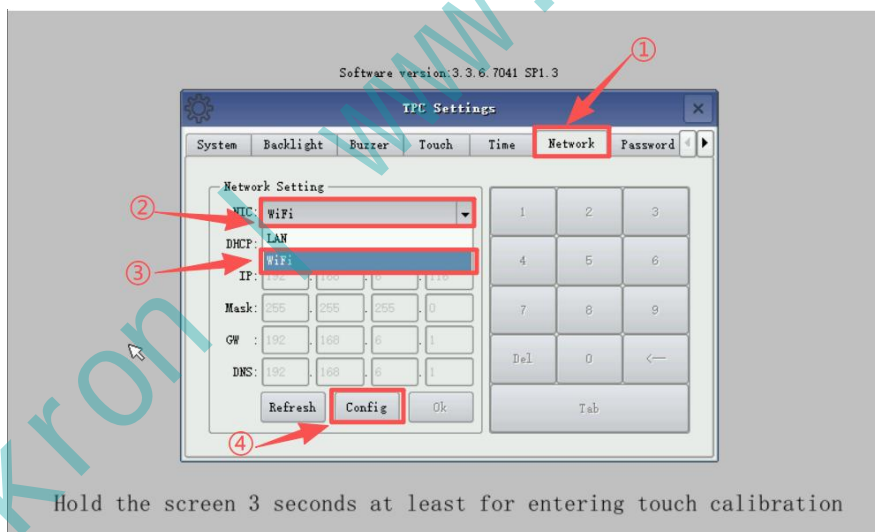

Figure 7.27: WiFi Configuration Interface
4) Click the "Network" option in the title bar of the "TPC System Settings" interface to display the Network Settings screen. On this screen, click the drop-down menu next to "Network Adapter," and then select "WiFi" from the options that appear. If the selection field updates to display "WiFi," the selection was successful; then, click the "Configure" button located below (as shown in Figure 7.27).